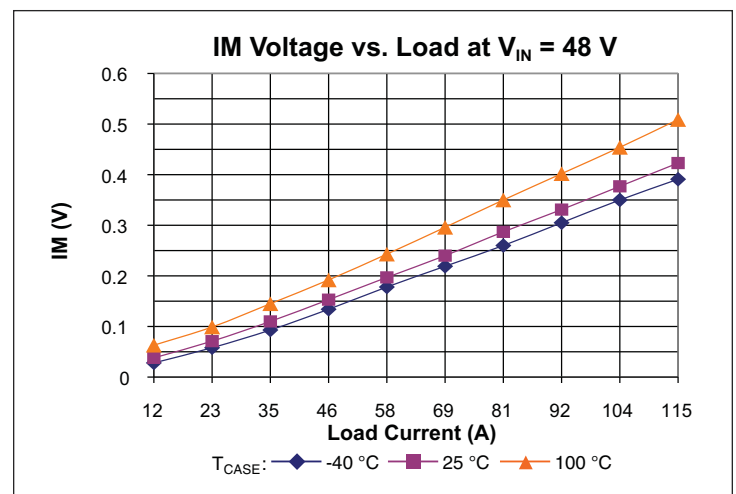

Figure 14 — IM voltage vs. load
Current Monitor (IM) pin provides a voltage proportional to the output current of the VTM module. The nominal voltage will vary between 0.07 V and 0.61 V over the output current range of the VTM module (See Figures 14–16). The accuracy of the IM pin will be within 25% under all line and temperature conditions between 50% and 100% load.